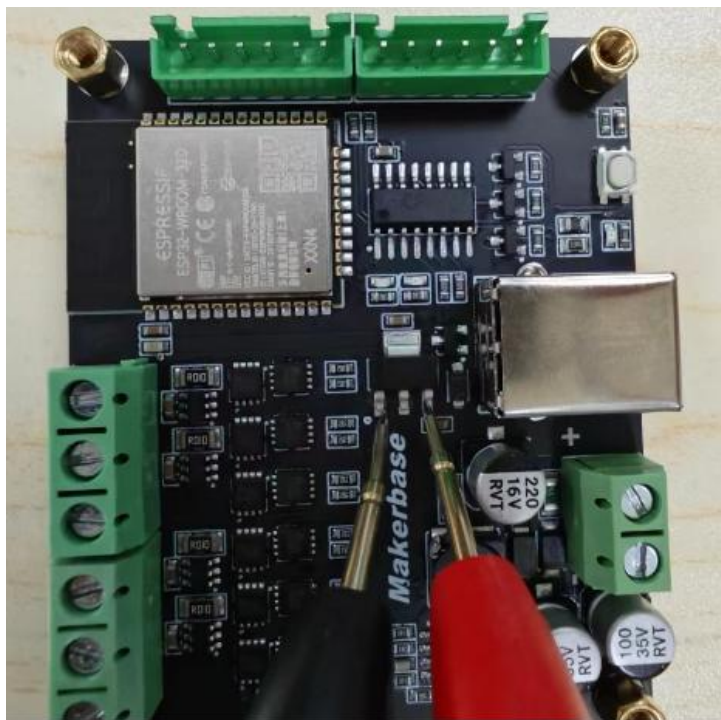

Figure 2 Test whether 5V and GND are short-circuited
2. Use a multimeter to check whether the 5V of the driver board is shorted to GND, as shown in Figure 2